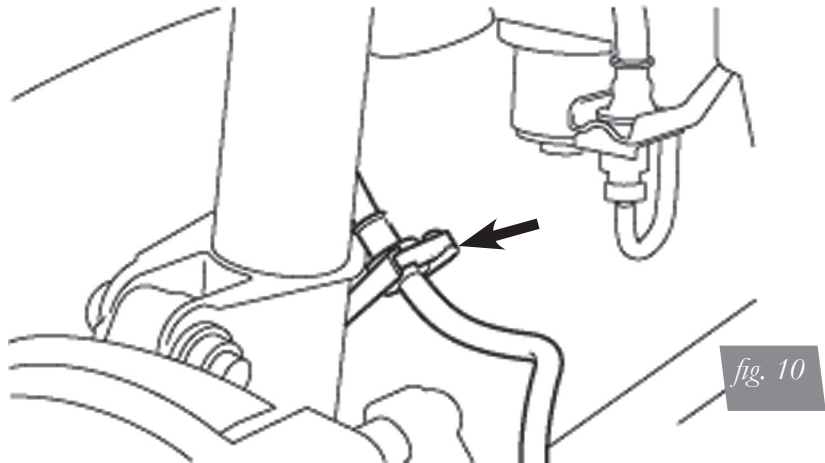

fig. 10
1. Remove the clips retaining the brake hose (fig. 10).